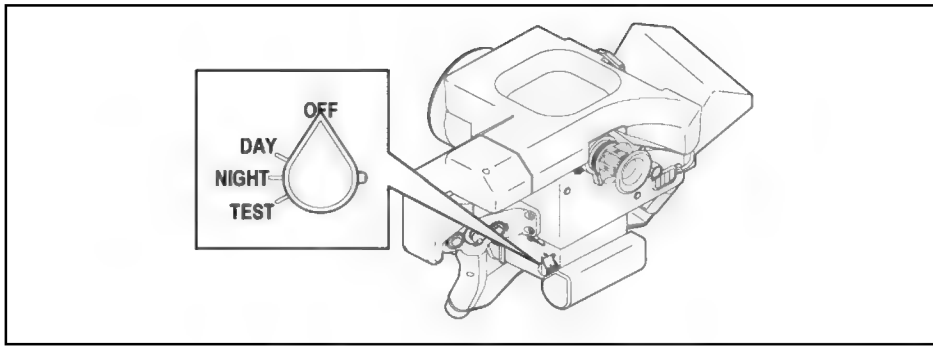

Figure 2-33. Power switch OFF position.
a. **Turn the Power Switch to OFF.** The gunner turns the power switch to the DAY position and waits for the flipper mirror to switch to the day sight position (about 2 seconds), then he turns the power switch to OFF (Figure 2-33, page 2-22).